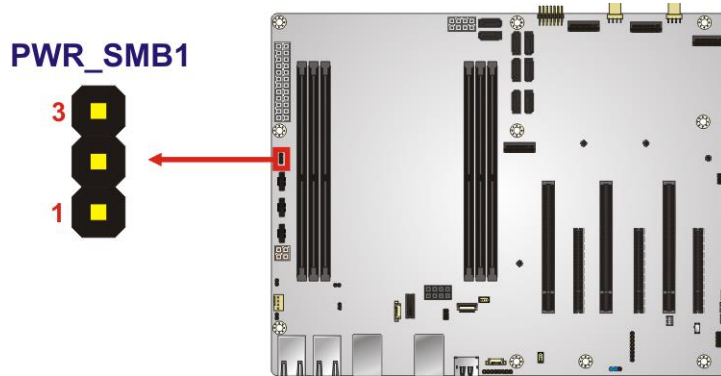

Figure 3-22: SMBus Power FW Programming Connector Location
- CN Location:** See **Figure 3-22**